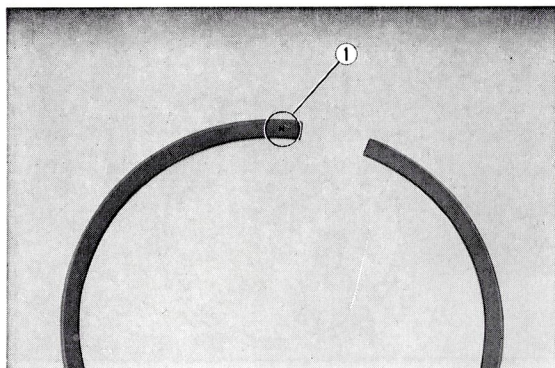

Fig. 3.72 Identifying upper and lower surfaces of the piston ring
- ① Oil filter cover
- ② To upper crank case
- ③ From lower crankcase
- ④ Oil filter cover
- ⑤ 57.8 × 6.2 O-ring
- ⑥ Oil guide metal spring
- ⑦ Oil guide metal
- ⑧ Oil guide metal stop ring
- b. The rings must not be installed upside down; this will cause oil pumping. The top side of the ring is etched at the end with the initial of the manufacturer's name. (Fig. 3.72)